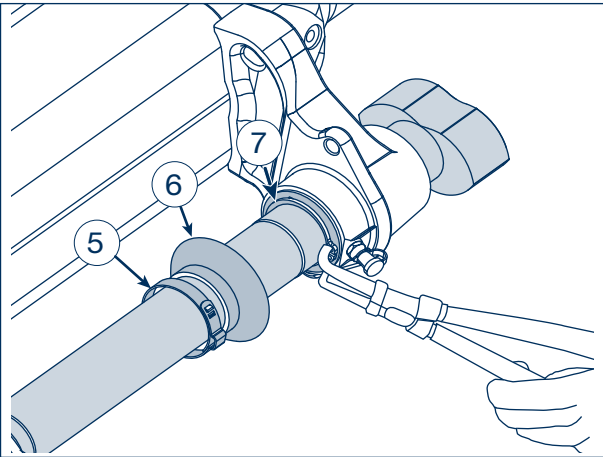

Figure 72
- [2] Set the specified push rod length in relation to the cylinder base (maintain a clearance of min. 40 mm see Fig. 72). Initially screw the lock nut on to secure the clevis.